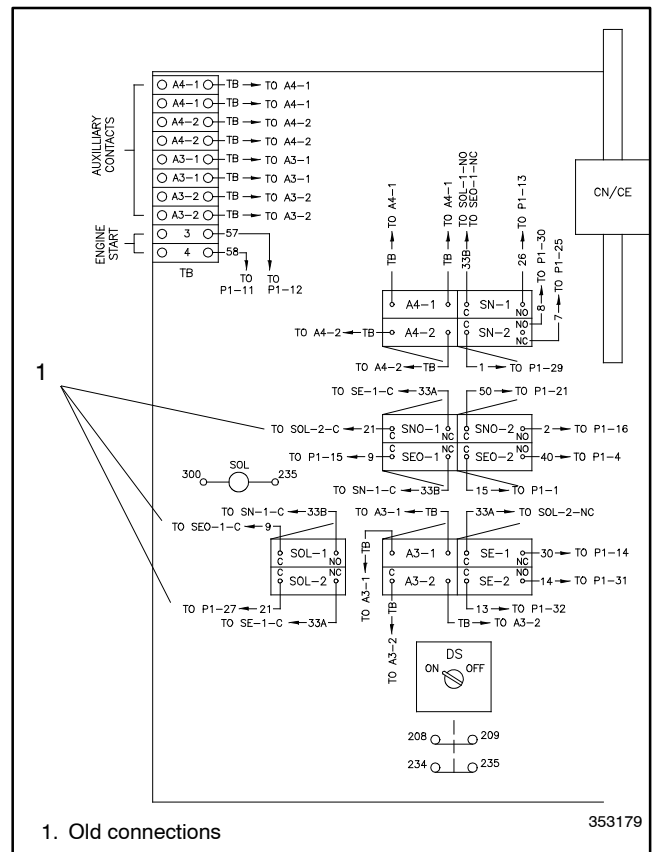

Figure 51 Old Connections, 40-260 Amp Models
40. Disconnect lead 9 from terminal C of SOL-1. See Figure 51. Tape off lead 9 and secure it out of the way.
42. Disconnect lead 21 from SOL-2 terminal C. See Figure 51.